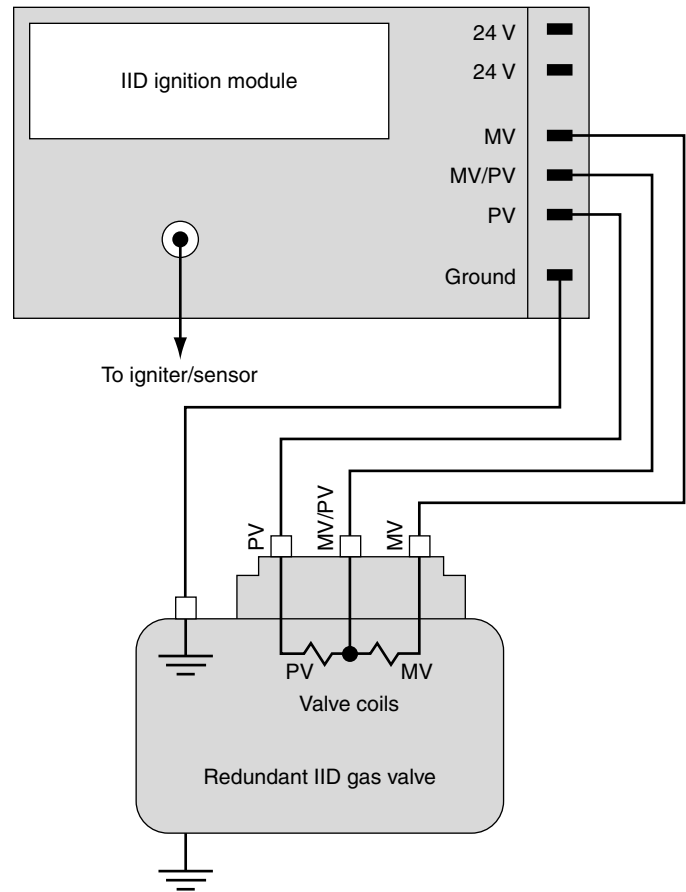

Figure 1. Typical IID module/gas valve wiring
- ▶ **IID (intermittent ignition device).** IID systems light a pilot and then the main burners only after the pilot has been proven to be lit, usually either through flame rectification or thermal detection. When a call for heat ends, the pilot valve closes, interrupting gas flow to the pilot. If the system utilizes natural gas, these systems may or may not be 100% lockout, depending on the manufacturer. LP gas-fired appliances must be 100% lockout if the pilot is not proven to be lit within a relatively short period of time. IID gas valves normally have three electrical connection terminals. As shown in Figure 1 above, they are the PV (pilot valve), MV (main valve), and MV/PV (or common). Some flame rectification systems use a separate sensor and igniter, called *remote sensing*, while others use a combination igniter/sensor, referred to as *local sensing*.